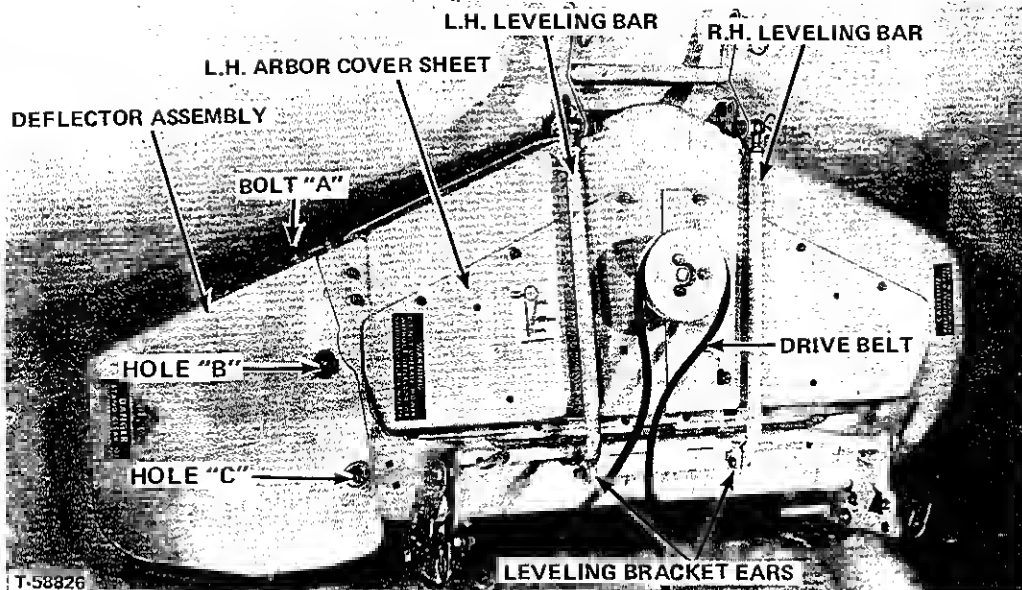

Figure 2.
5. See Figure 2. Fasten the rear of the right and left leveling bars to the outside of the leveling bracket ears with bolts, spacers, flat washers, lockwashers, and nuts.
6. See Figure 2. Bolt the discharge deflector to the left end of mower housing, slipping notch in front leg of deflector under large flat washer on bolt "A" and installing bolt, flat washer, lockwasher and nut at holes "B" and "C".